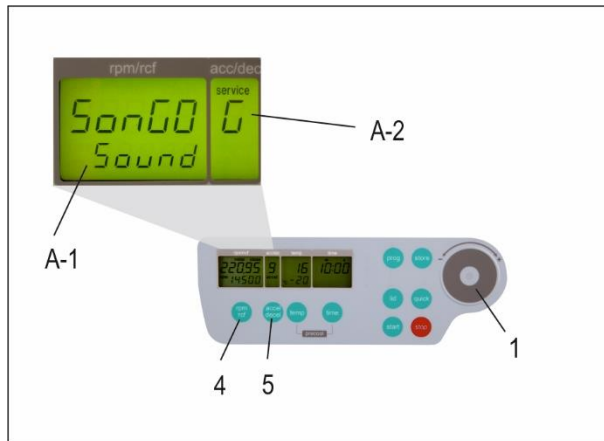

Figure 10
Proceed as illustrated, under point 1.8.1, to enter this program mode, press the key, "accel/decel" (5). In the display, "accel/decel" (A-2) flashes the word, "service". Select the letter, "G" with the control field (1). As a result, appearing in the display, "rpm/rcf" (A-1), the word "SonGo/Sound". After pressing the key „rpm/rcf" (4), select a song with the control field (1), (see Figure 10).